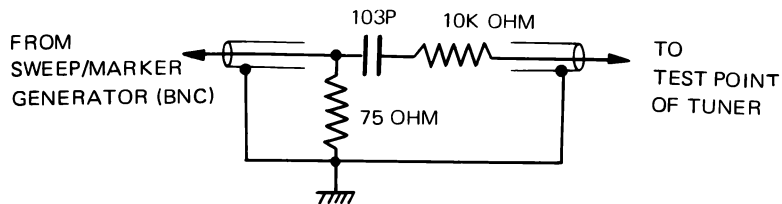

Figure 24. MATCHING PAD
3. Connect the output of sweep/marker generator in series with matching pad to Test Point on the tuner through 10K ohm resistor. (Fig. 24)
3. Connect the output of sweep/marker generator in series with matching pad to test point on the tuner through 10K ohm resistor. (Fig. 24)
4. Connect the output of sweep/marker generator with matching pad to test point on the tuner (Figure 24)
4. Connect the output of sweep generator with matching pad to test point on the tuner (Fig. 24)
- STEP (1) 1. Adjust the AFT BALANCE ADJ(VR152) on main board for zero volt on digital voltmeter.
- STEP (2) 1. Connect the output of sweep/marker generator in series with matching pad to test point on the tuner through 10K ohm resistor. (Refer to Fig. 24)